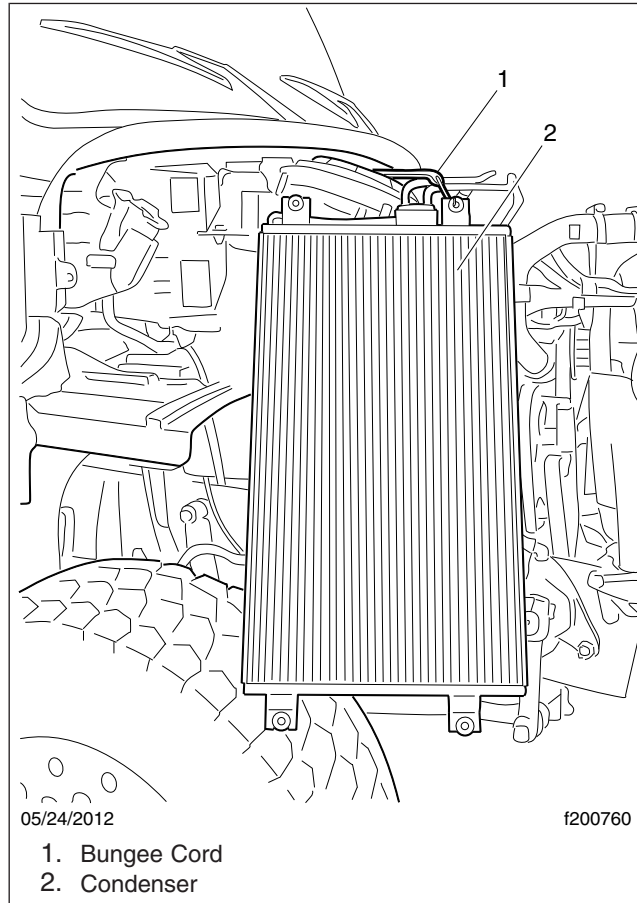

Fig. 10, Securing the A/C Condenser
16.3 Carefully move the condenser around and set it on the right front tire. Secure it as needed. See Fig. 10.